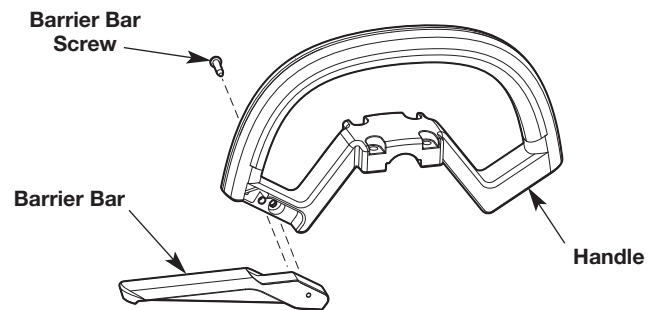

Fig. 2
1. Align the two pegs on the barrier bar with the two holes in the handle (Fig. 2).
3. Insert the barrier bar screw into the handle (Fig. 2).